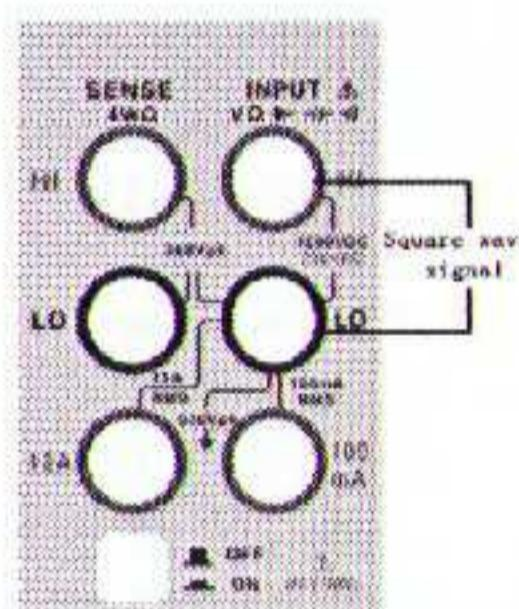

Figure 4-26 Wiring method
2. Connect the red and black test leads to the corresponding input terminals as shown in Figure 4-26.